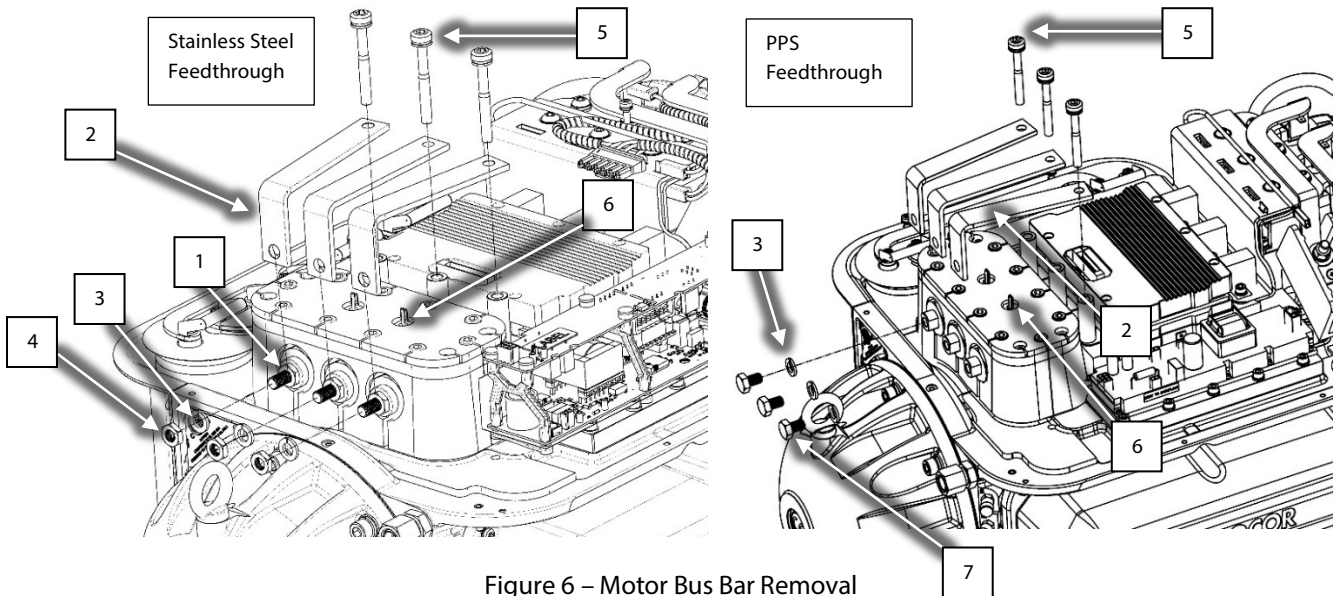

Figure 6 – Motor Bus Bar Removal
14. Disconnect the two (2) connectors from the Thermistor Sensor Feedthroughs. Refer to Figure 6 (Motor Bus Bar Removal).
15. To remove the Motor Bus Bar, remove the three (3) M8x70 fasteners attaching the Bus Bars to the Inverter. Then remove the three (3) nuts or screws (depending on the installed feedthrough) from the Motor Bus Bars to the High-Power Feedthroughs. Continue to Step 16 for Stainless Steel Feedthroughs. For PPS (Polyphenylene Sulfide) Feedthroughs, continue to Step 17.
18. Remove the Motor Bus Bars. Refer to Figure 6 (Motor Bus Bar Removal) for examples of both versions.